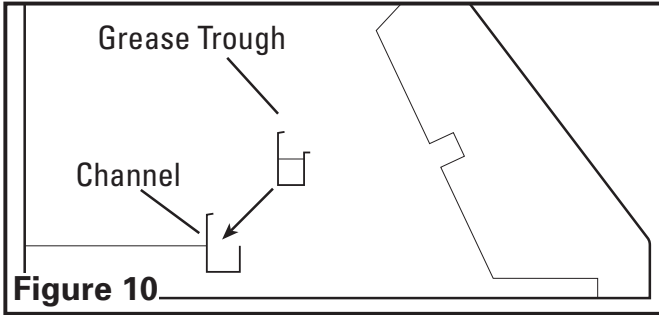

Figure 10
- If the included removable grease trough is not already installed within the hood, insert into the rear inside channel of the hood. Make sure the taller side of the trough is facing towards the back of the hood (Figure 10).